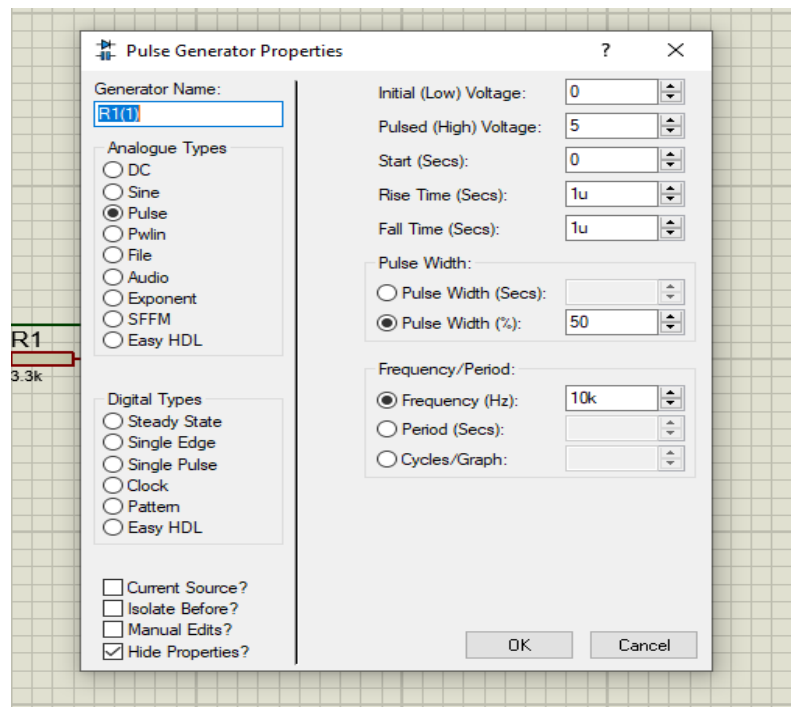

Figure 1.21
3. Here R1(1) is a pulse voltage source that can be found in the source section. Oscilloscope is connected as per the picture.
4. Then set the value of pulse source by following the figure 1.21,